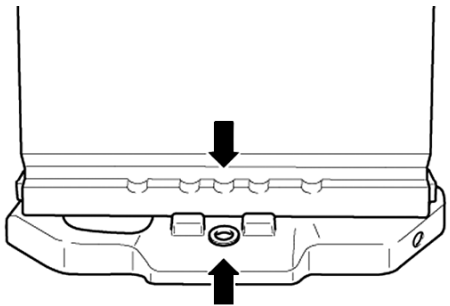

Fig. 9 Battery alignment
2. Battery is inserted correctly when center cut out in foot strip aligns with threaded hole in battery carrier (arrows), **Fig. 9**.